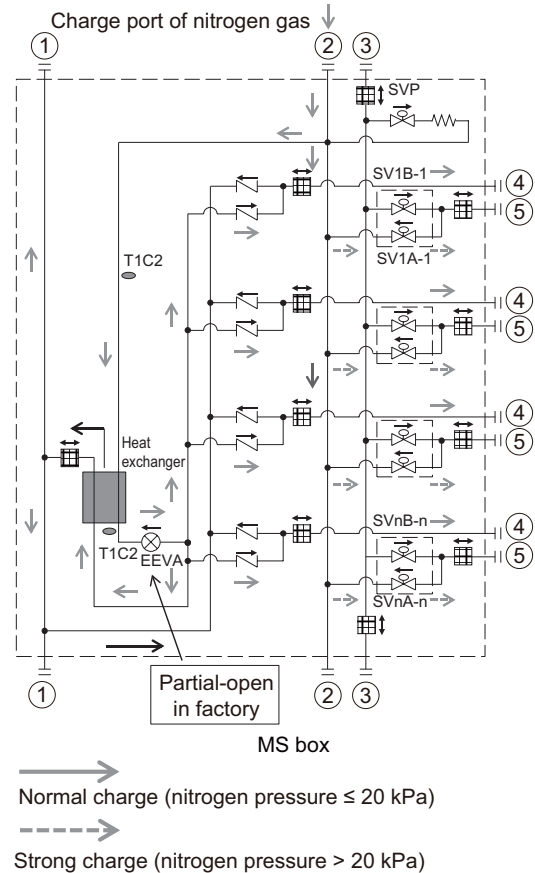

Fig. 5-15
a) Normal charge from port ① while brazing port ④ and strong charge (> 20 kPa) from port ② while brazing port ⑤ as Fig.5-15.
b) Normal charge ( $\leq 20$  kPa) from port ② while brazing port ① and normal charge from corresponding outdoor unit stop valve while brazing port ② and port ③ as Fig.5-15.